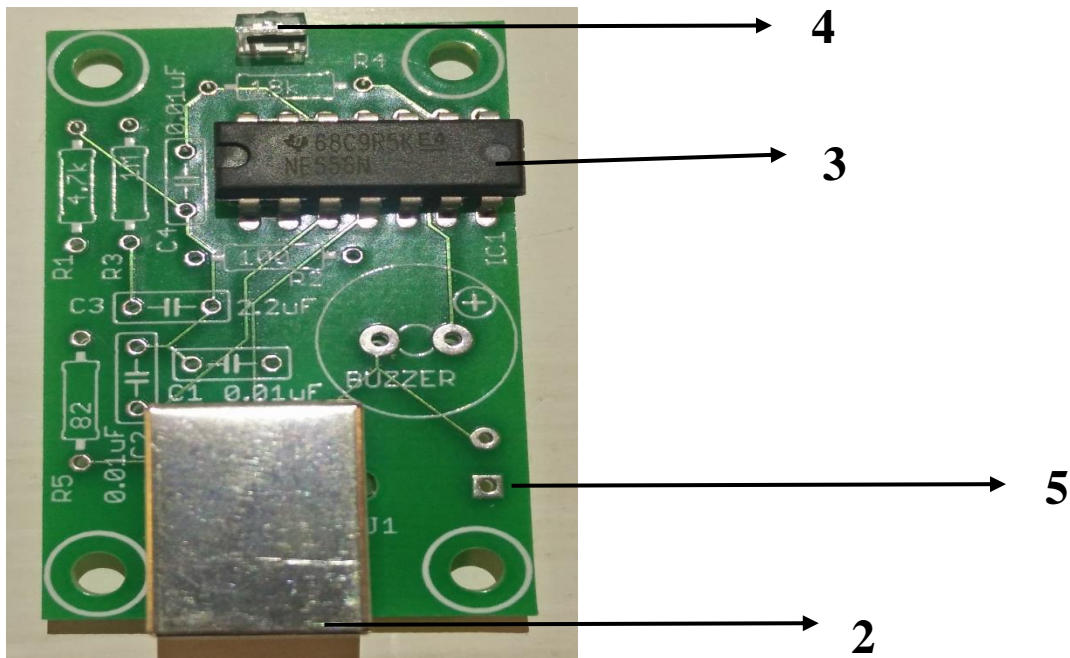

Figure 6
4. Install NE556N as shown. Note that this part has a small indentation on one side. **The side with the indentation must be positioned with the indentation toward the left as shown in the figure 6.** The indentation will match a similarly shaped mark on the printed circuit board.
5. Locate the phototransistor Q1 (clear two legged component). Note that a black rectangle is visible on one side of the component and the other side has a tiny clear bump. The clear bump is a lens. Install the component on the circuit so that the bump aligns with the pattern on the circuit board. This will leave the lens facing away from the circuit board and the black rectangle facing the center of the board as shown in **figure 6.**
6. Install laser light) with the **red wire going into the square hole and blue wire going to the round hole as shown in figure 6.**